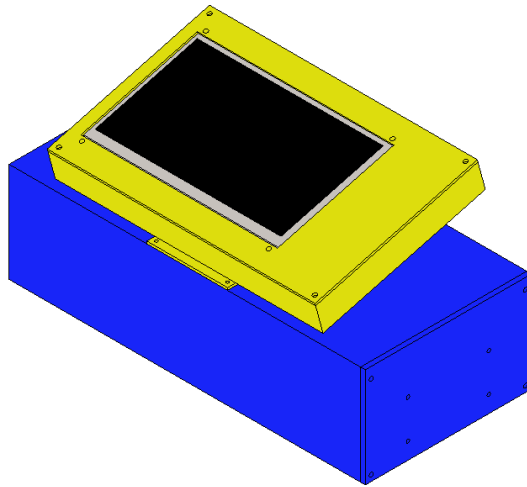

Figure 39: *Electronics case panel* attached to the *electronics case*.
9. Attach the *electronics case panel* to the *electronics case* using four (4) M3 screws. Secure the *electronics case panel* to the board trays using four (4) M2 screws. The assembly is shown on figure 39.